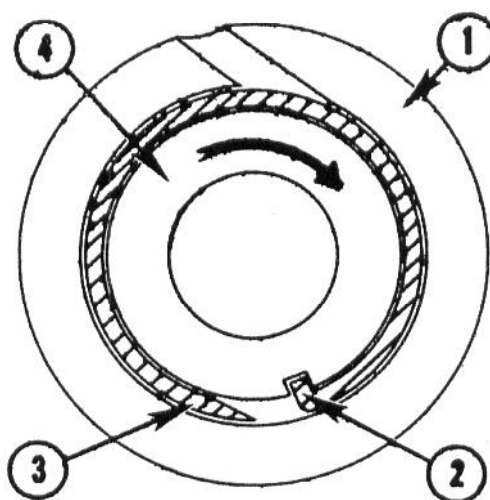

Fig. 43 — Direction of Bearing Rotation for Access to Wire Retainer Ring
b. Rotate bearing clockwise (as viewed from bearing end of barrel) ... until BEVELED END of wire retainer is visible at hole in barrel, see Fig. 43.